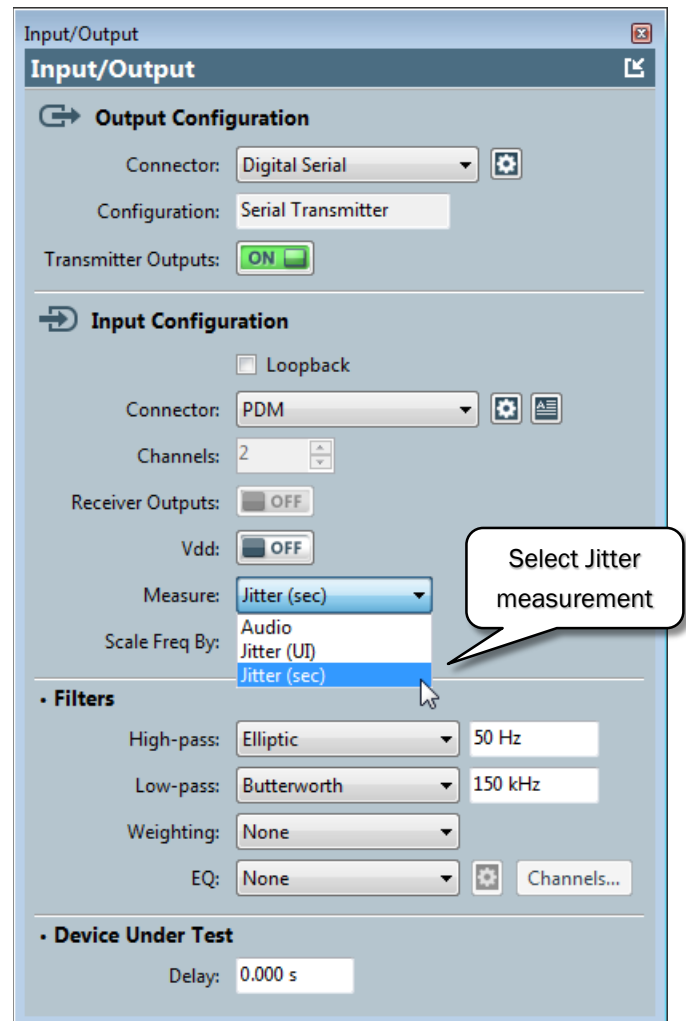

Figure 28. APx Input/Output panel configured for Jitter (sec) measurements.
The **Measure** control defaults to **Audio**. Select either **Jitter (sec)** or **Jitter (UI)** to enable jitter measurements (see Figure 28).